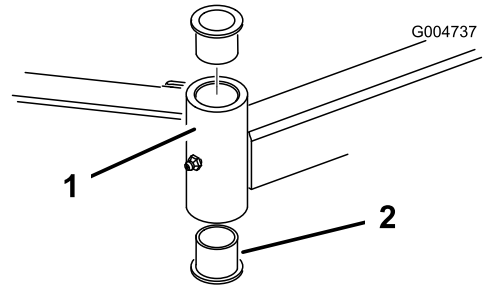

Figure 22
- Insert a pin punch into the top or bottom of the mounting tube and drive the bushing out of the tube (Figure 22). Also, drive the other bushing out of the tube. Clean the inside of the tubes to remove dirt.